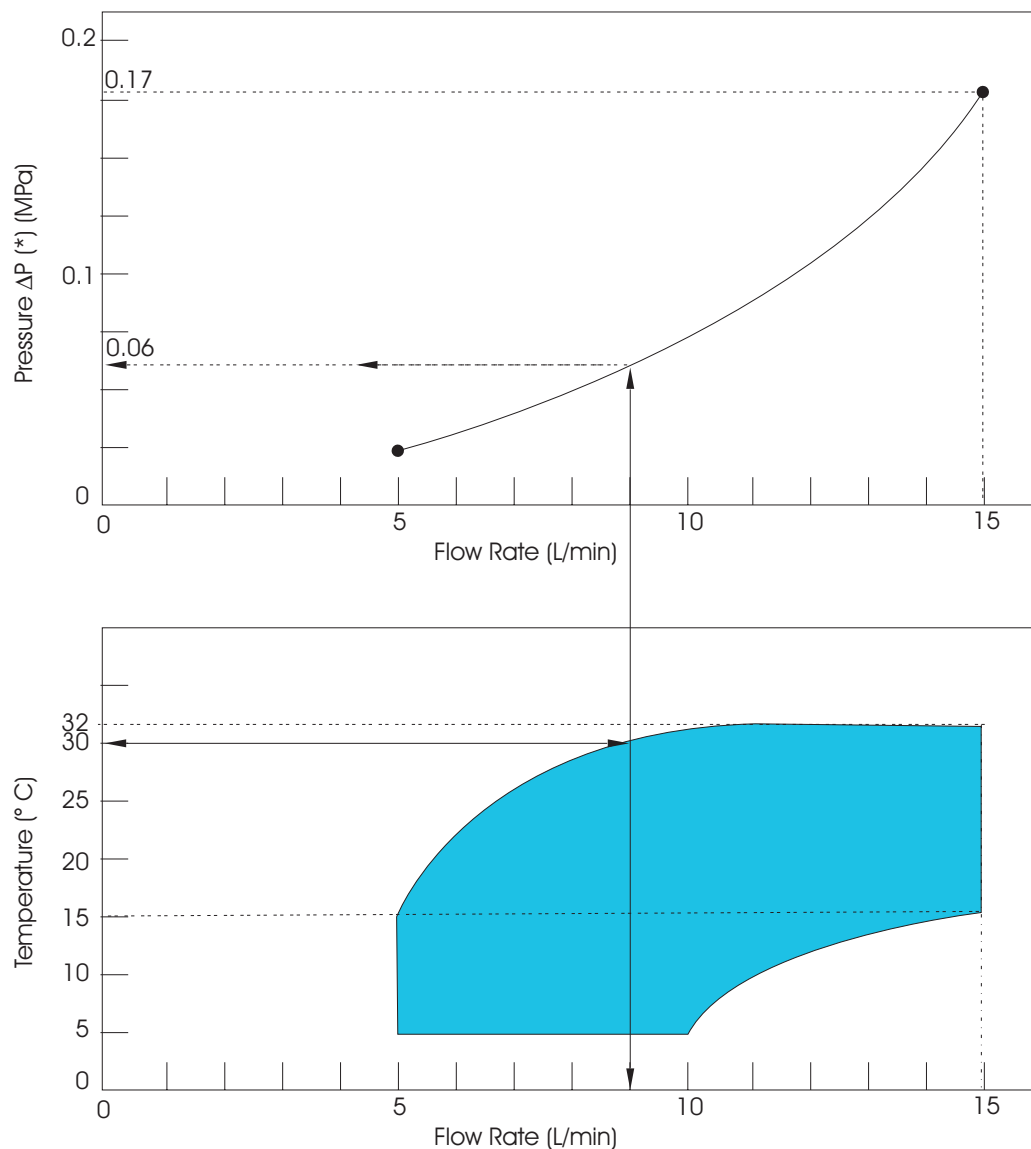

Figure 2-6: Water Flow Rate Versus Pressure Drop
The water used to cool the 8600 Compressor must meet the specifications shown in Table 2-2 for proper system operation. The correct pressure drop (illustrated in Figure 2-6 on page 2-9) must be provided in the water supply system to ensure that the water flow condition meets the requirements specified in Table 2-2.
Pressure Drop (Inlet-to-Outlet)	0.02 - 0.17MPa (See <a href="#">Figure 2-6 on page 2-9</a> .)
**NOTE:** *Figure 2-6 defines the water flow rate through the 8600 Compressor as a function of the pressure drop from water inlet to water outlet. You must provide the correct pressure drop in your water supply system to ensure that the water flow condition meets the requirements specified in Table 2-2 on page 2-8. The water pressure drop ( $\Delta P$ ) means differential pressure between cooling water supply pressure and return pressure. An arrow in the graph ( $\rightarrow$ ) illustrates the minimum required water flow rate 2.36gpm (9lpm) and water pressure drop 8.57psi (0.06MPa) at the water supply temperature of 86°F (30°C).*